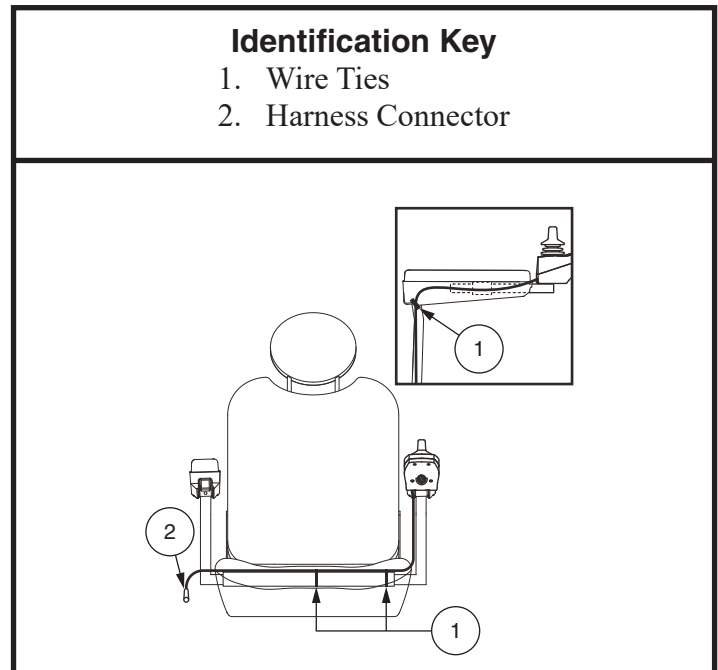

Figure 7. Controller Harness Routing on a Contour Seat
3. Lift the armrest straight up, then route the controller harness and secure with wire ties as shown in **figure 7**.